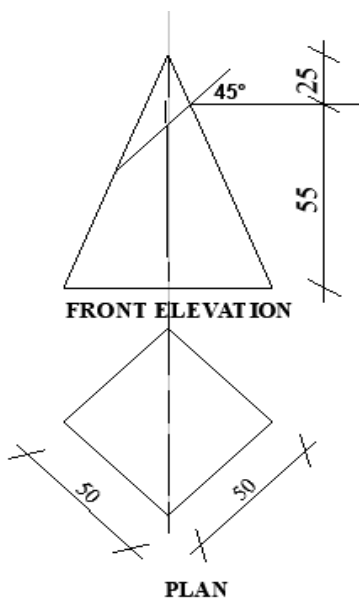

Figure 2.
12. Figure 2 is a right square-based pyramid.